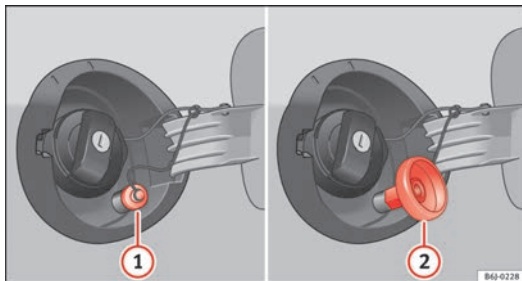

Fig. 128 Fuel tank open with LPG filler neck and adapter.
- Unscrew the cap of the gas filler neck ⇒ Fig. 128 ①.
- Screw the required adapter ⇒ Fig. 128 ② on the gas filler neck ①.
- Unscrew the adapter ⇒ Fig. 128 ②.
- Screw on the cap of the gas filler neck ⇒ Fig. 128 ①.